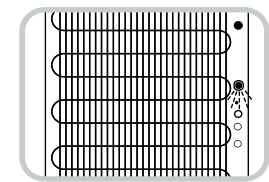

Fig.4
10. Turn counterclockwise to open the drain cap and drain the water from the tanks. Do not tilt the unit to drain the water. (Fig. 4) **CAUTION:** Hot water may dispense from the drain cap.